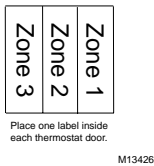

Fig. 5. Zone stickers included with T8665A Thermostat.
5. Attach the zone number stickers, included with the thermostat, onto the thermostat case on the inside of the thermostat cover. See Fig. 5.